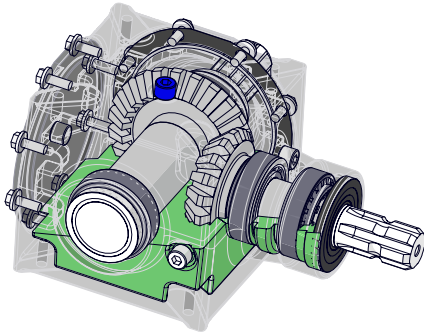
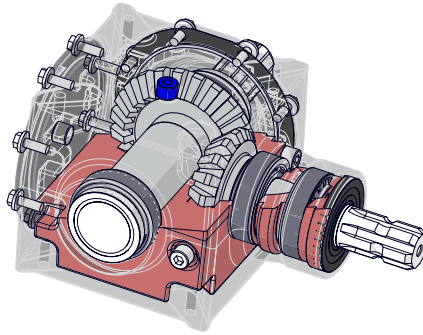

Figure 1
Figure 2
The drawing shows the proper way to mount the wheels using Budd-type nuts. The wheels supplied with your grain cart have straight holes and the Budd nuts will be mounted according to Figure 1. Wheels that are improperly installed on the grain cart, resulting in product failure, will nullify warranty and shift the burden of liability to the owner/operator. **We recommend you inspect your wheel nuts to make sure they are properly installed. Also, check the wheel nuts on a regular basis to ensure they are tight.**
**90 DEGREE REAR GEARBOXES:** Gearbox lubricant has been added to the gearboxes during final assembly. Recheck the lubricant level before initial operation of the grain cart, then periodically according to use. For the gearbox on the left while looking at the rear of the cart, the fluid level should be between the bottom and halfway point of the 2" output shaft that bisects the gearbox. The recommended fluid level range is pictured in Figure 1 and Figure 2 below. The minimum level is pictured in green and the maximum level is pictured in red. An pressure relief plug plug is located in the center of the top of the gearbox mount plate. To check the fluid level, remove the vented inspection plug and view the fluid level from above. When filled to the maximum level (shown in red), the gearbox should have 80 ounces of SAE 80W-90 lubricant. Change the oil annually before use.